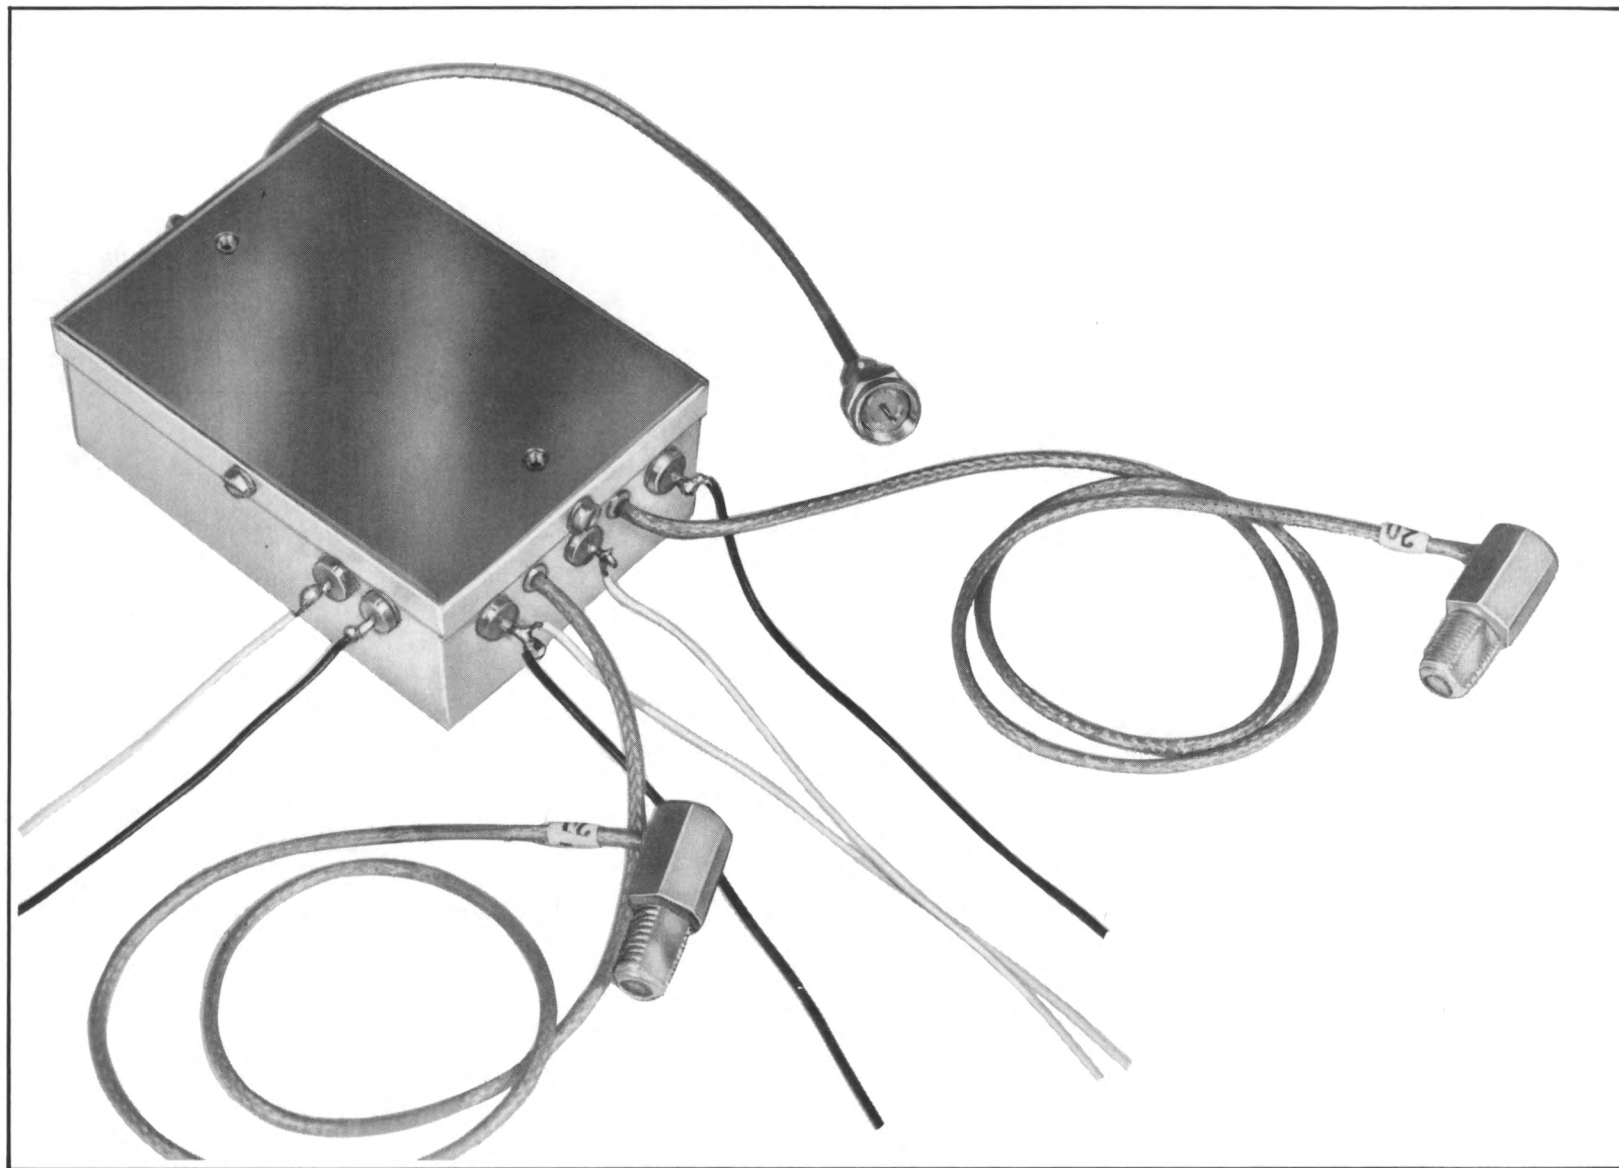

Fig. 8 CIS MODULE
- 1.2.1 Model CIS comes factory-equipped with six hook-up wires and three coaxial cables with appropriate connectors as shown in Fig. 8 (module upside-down showing the two built-in mounting nuts).